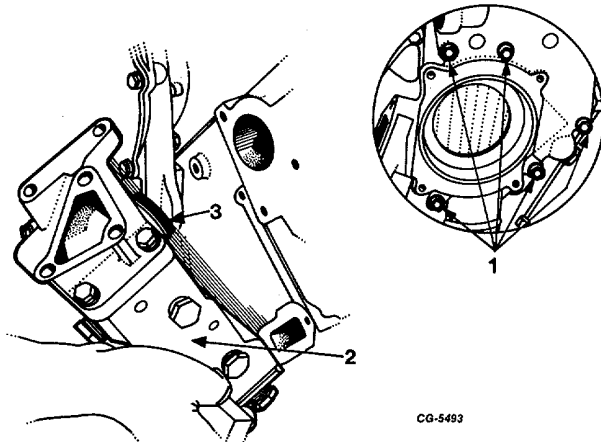

Fig. 28 Water Pump Housing Removal
21. Remove water pump housing with thermostat housing from crankcase by removing five bolts and oil cooler water return line, remove housing with water return tube (Figure 28).